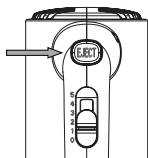

Fig. 4
8. When mixing is completed, turn the speed selector to “0” position, unplug the cord from power outlet (See Fig. 4).